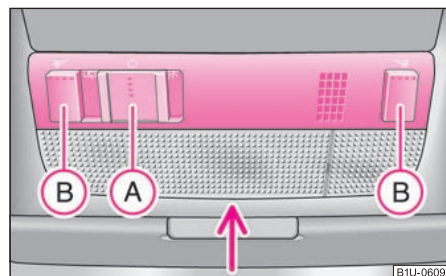

Fig. 51 Detail of the headliner: front interior lighting
- Press the switch **A** to the left, the symbol  $\text{☞} \Rightarrow$  fig. 51 appears.